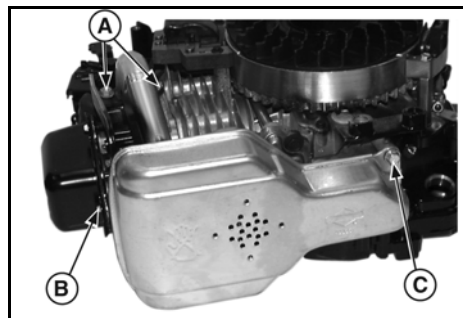

Figure 21
- Start screws (A, Figure 21) at exhaust pipe but do not tighten.
- Start screw (B) in muffler bracket to cylinder head.
- Start screw (C) in muffler to cylinder bracket.